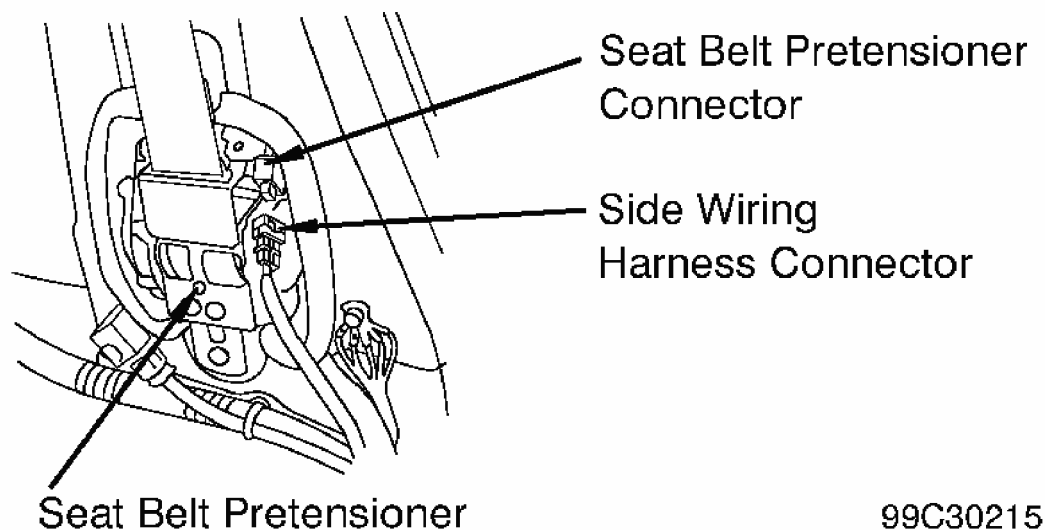

Fig. 5: Disabling Seat Belt Pretensioner
Turn ignition switch to OFF position. Disconnect negative battery cable. Wait at least 3 minutes. Remove center pillar lower trim panel. Disconnect appropriate seat belt pretensioner connector from SRS floor harness connector. See **Fig. 5** . Seat belt pretensioner is now disabled.
2. To deploy driver-side air bag, remove access panel from steering wheel. See **Fig. 2** . Disconnect driver-side air bag 4-pin connector from cable reel connector. To deploy passenger-side air bag, remove glove box. Disconnect passenger-side air bag 4-pin connector from SRS main harness. See **Fig. 3** . To deploy side impact air bag, disconnect side impact air bag 2-pin connector from SRS side wiring harness. See **Fig. 4** . To deploy seat belt pretensioners, disconnect seat belt pretensioner 2-pin connectors from side wiring harness. See **Fig. 5** . Pull seat belt all the way out of retractor and cut belt.
1. Before proceeding, see **AIR BAG SAFETY PRECAUTIONS** . Disable air bag system. See **DISABLING SYSTEM** under **DISABLING & ACTIVATING AIR BAG SYSTEM**. Disconnect driver- and passenger-side air bag 4-pin connectors, and right and left seat belt pretensioner 2-pin connectors. See **Fig. 2** , **Fig. 3** & **Fig. 5** .